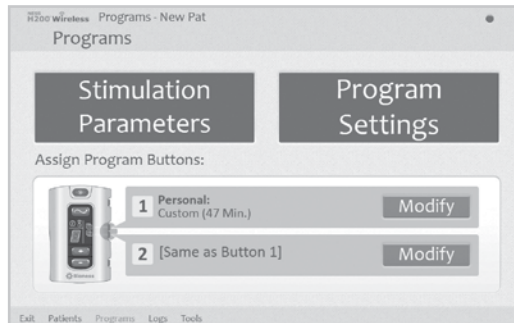

Figure 8-31: Programs Menu
1. From the Programs menu, press  Modify button. See Figure 8-31.